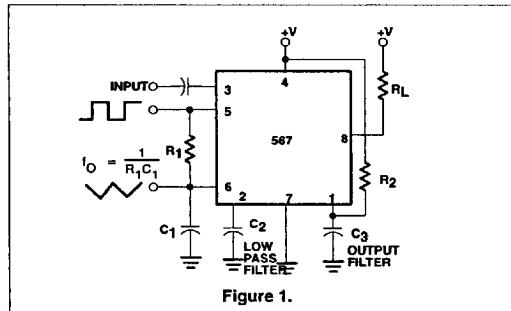

Figure 1.
4. With R₂=130kΩ from Pin 1 to V₊. See Figure 1.
Figure 1 shows a typical connection diagram for the 567. For most applications, the following three-step procedure will be sufficient for choosing the external components R₁, C₁, C₂ and C₃.
AVAILABLE OUTPUTS (Figure 1)